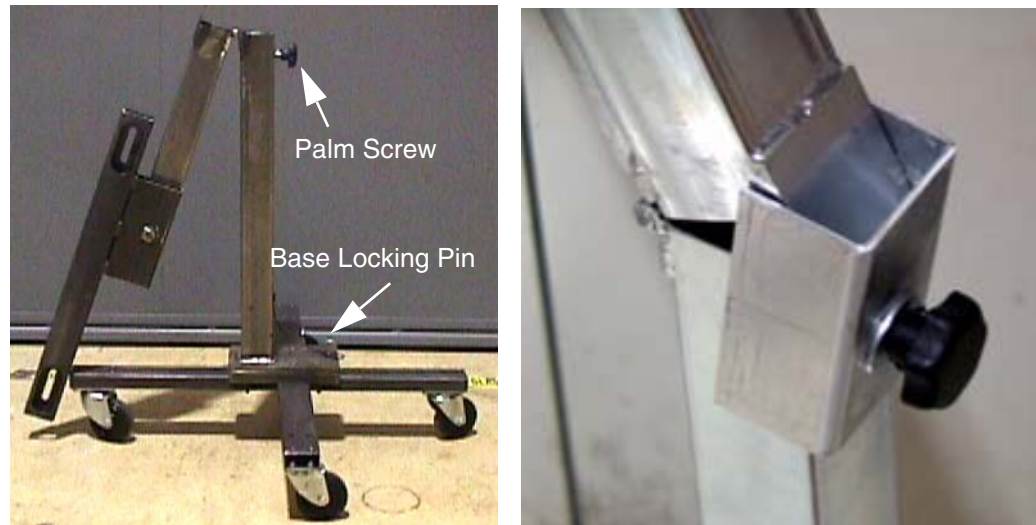

Figure A-6 Front Cover Dolly Stand and Base with additional Safety Bracket
- 3.) Install the stand in the base, insert the base locking pin, unfold the stand top, and secure it with a palm screw. Ensure that the additional safety bracket and washer are installed (see Figure A-6).